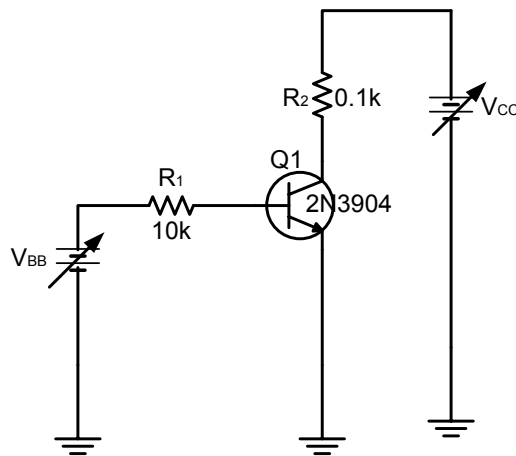

Figure 3
Use the same circuit shown in Figure 3. Set $V_{CE} = 5\text{V}$. Select *Analysis* → *Setup* → *DC Sweep*. Sweep for I_B from $100\mu\text{A}$ to 1mA in *DECADES* with 20 points per decade. Run the simulation. Plot the trace $I_C(Q_1)/I_B(Q_1)$ versus I_B . Also plot $I_C(Q_1)/I_B(Q_1)$ versus I_C .
Circuit for this analysis is shown in Figure 3. Consider $V_{CE} = 5\text{V}$. You can generate β versus I_C curves at different temperatures. This is a typical curve found in most data sheets for BJTs.
1. Connect the common-emitter configuration as shown in Figure 3. Initially set both power supplies to 0V. Slowly increase V_{BB} until voltage across R_1 (V_{R1}) is 1V, this set up a base current of 0.1mA. Note: The purpose of R_1 is to limit the base current to a safe level and to allow indirect measurement of base current.